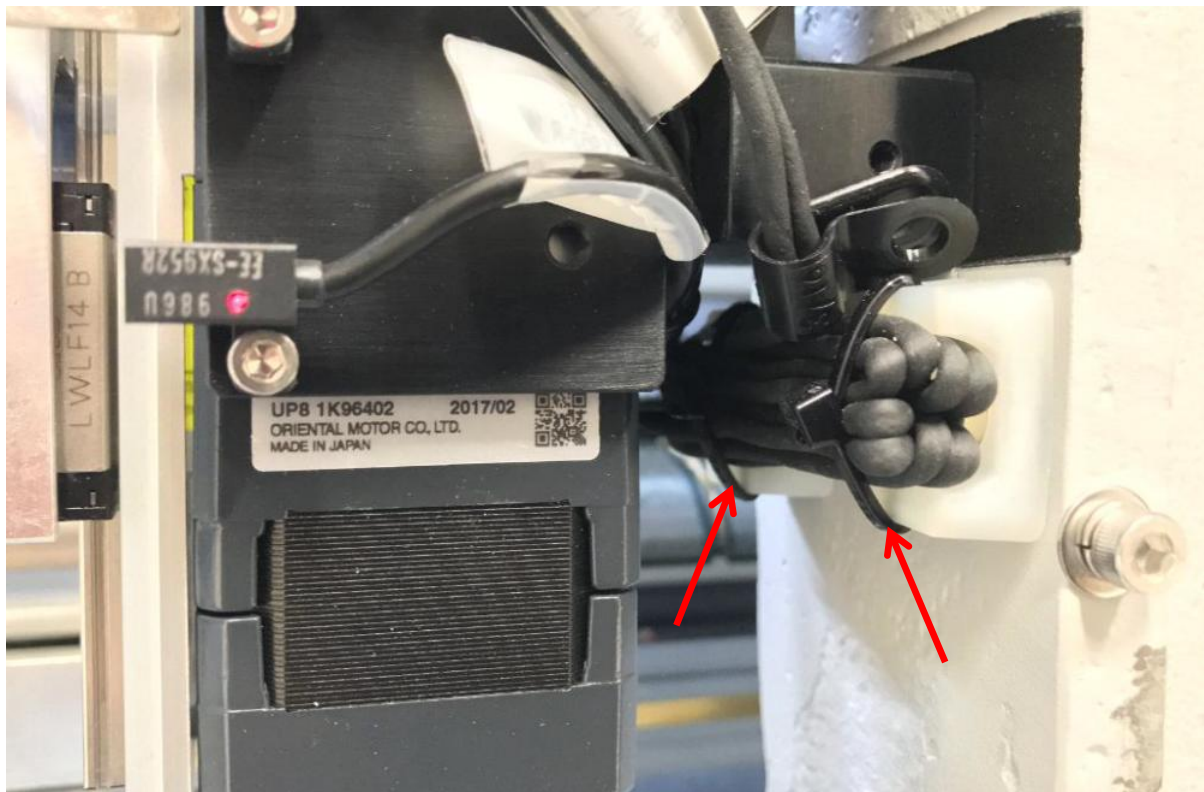

Figure 4
6. Remove 2 x Cable Tie at Cable Holder (White Colour) to release excessive cable as Figure 4